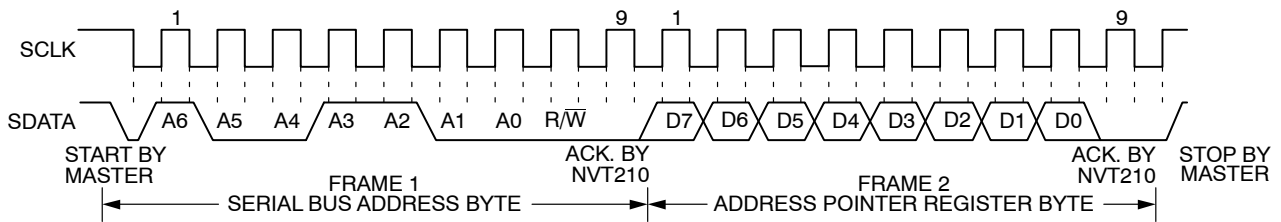
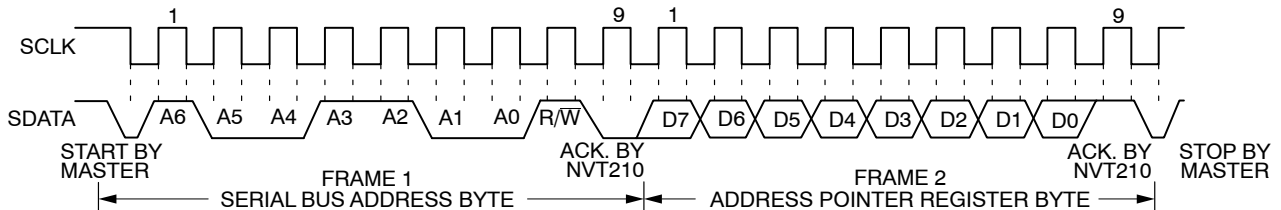

Figure 16. Writing to the Address Pointer Register Only
Figure 17. Reading Data from a Previously Selected Register
- If the address pointer register value of the NVT210 is unknown or not the desired value, it is first necessary to set it to the correct value before data can be read from the desired data register. This is done by writing to the NVT210 as before, but only the data byte containing the register read address is sent, because data is not to be written to the register see Figure 16. A read operation is then performed consisting of the serial bus address, R/W bit set to 1, followed by the data byte read from the data register see Figure 17.
- If the address pointer register is known to be at the desired address, data can be read from the corresponding data register without first writing to the address pointer register and the bus transaction shown in Figure 16 can be omitted.